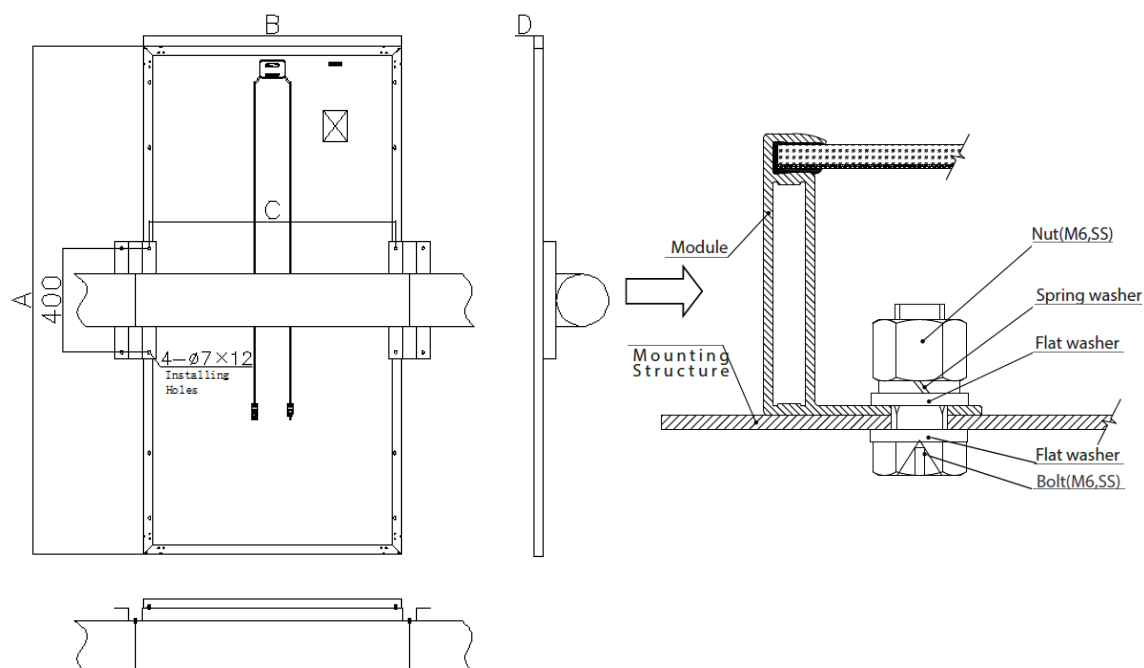

Figure 7
- The frame of each module has 4- $\phi 7 \times 12$ mm mounting holes with specific location shown in Figure 7.
- Secure the module in each fixing location with an M6 bolt, two flat washers, a spring washer and nut as shown in Figure 7, torque: 9~12 N.m.